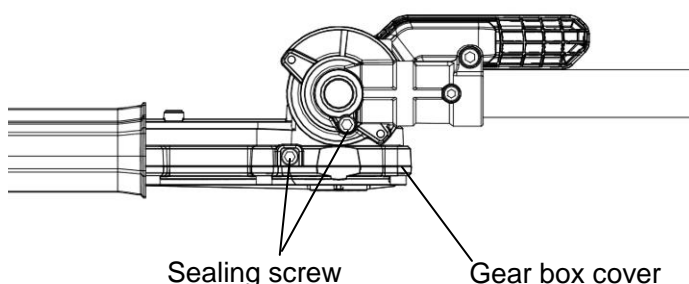

Fig. 29A
1. Lay the hedge trimmer on the ground and make sure the sealing screw to be removed is facing upwards (Fig. 29A /29B).